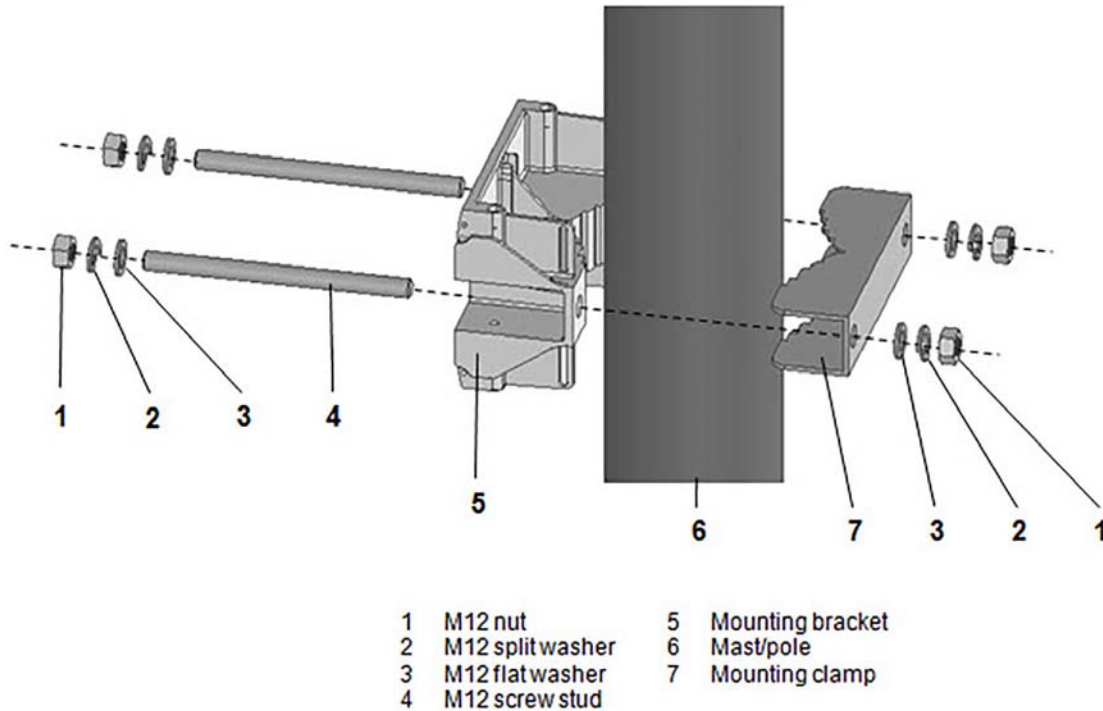

Figure 5-9 Installing mounting bracket on a pole
1. Install the mounting bracket and mounting clamp onto the pole/mast with mounting hardware as shown in Figure 5-9.